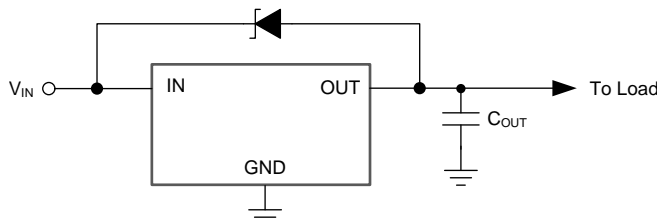

图 55. Zener Diode Placed from IN to OUT
- Place a zener diode from IN to OUT to provide a small positive dc bias on the output when the input is supplied to the device, as shown in 图 55.